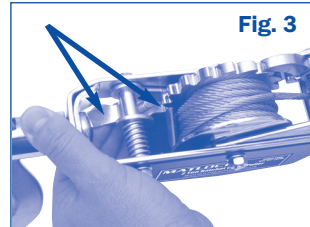

Fig. 3
- Now, pull the cable whilst releasing the ratchet stop - See Fig. 3 (leave 3 turns of cable on the drum).
- With enough cable removed from the drum, re-engage the ratchet stop. - See Fig. 3.